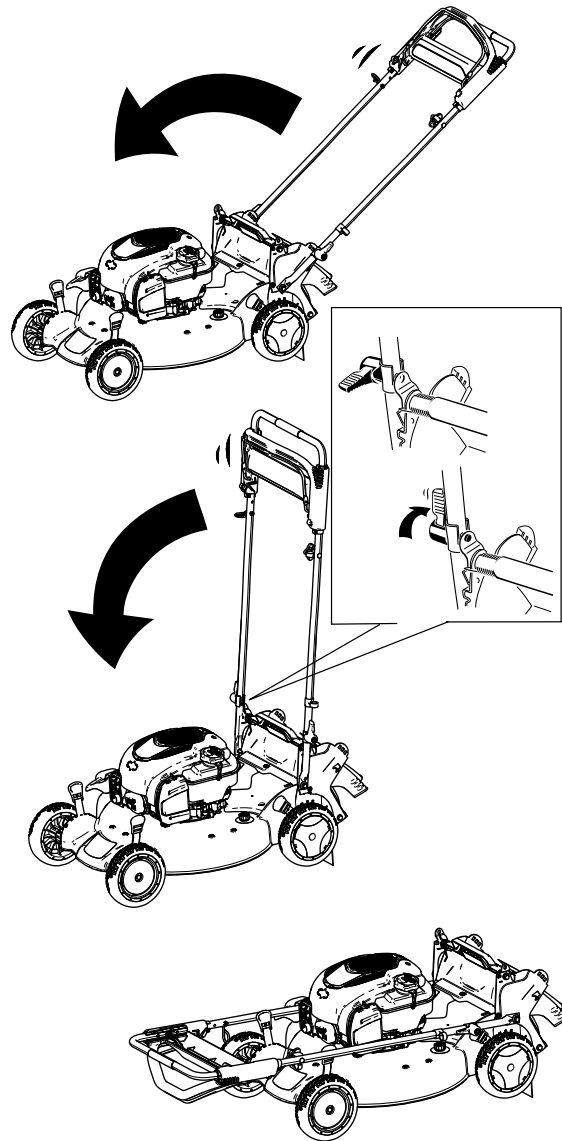

Figure 30
2. Rotate the handle forward (Figure 30).